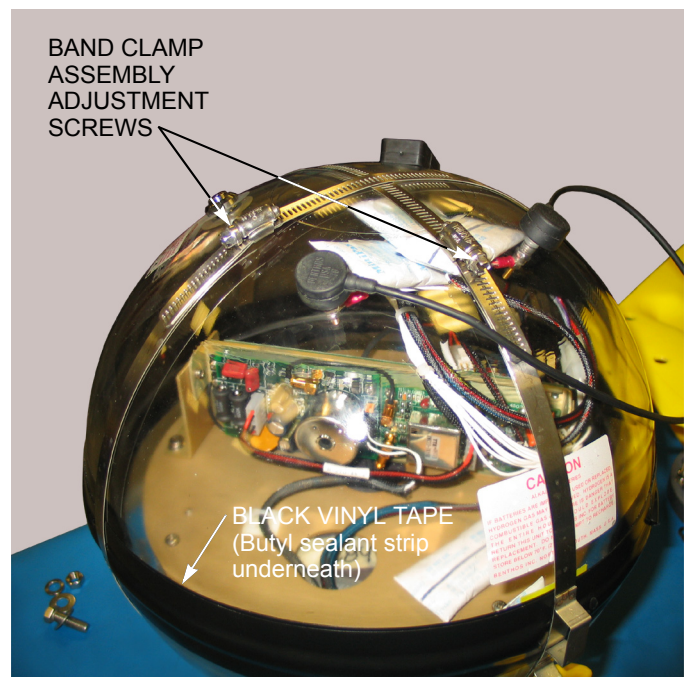

Figure 4-3 Band Clamp Assembly Adjustment Screws and Black Vinyl Tape
5. Remove the glass housing from the top half of the hard hat and carefully rest the housing on the transducer as shown in Figure 4-3.